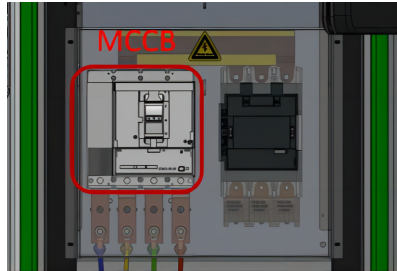

Fig. 5-7 MCCB
- a) Open the cabinet door, open the molded case circuit breaker (MCCB) as shown in Fig 5-7, power off the DC charging station.